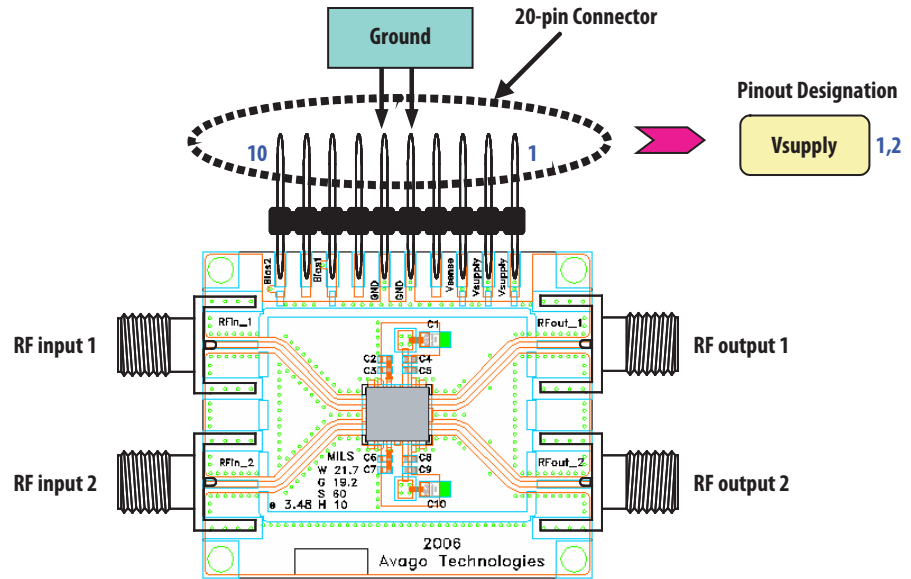

Figure 5. Demo Board Layout Diagram
$T_A = 25^\circ\text{C}$ ,  $V_{dd} = 5\text{V}$  @  $V_{ctrl} = 2.2\text{V}$ , RF performance at 2.0 GHz, given for each of the 2 RF paths, measured on demo board (see Fig. 5) unless otherwise specified.
- Measurements at 2GHz obtained using demo board described in Fig 5.